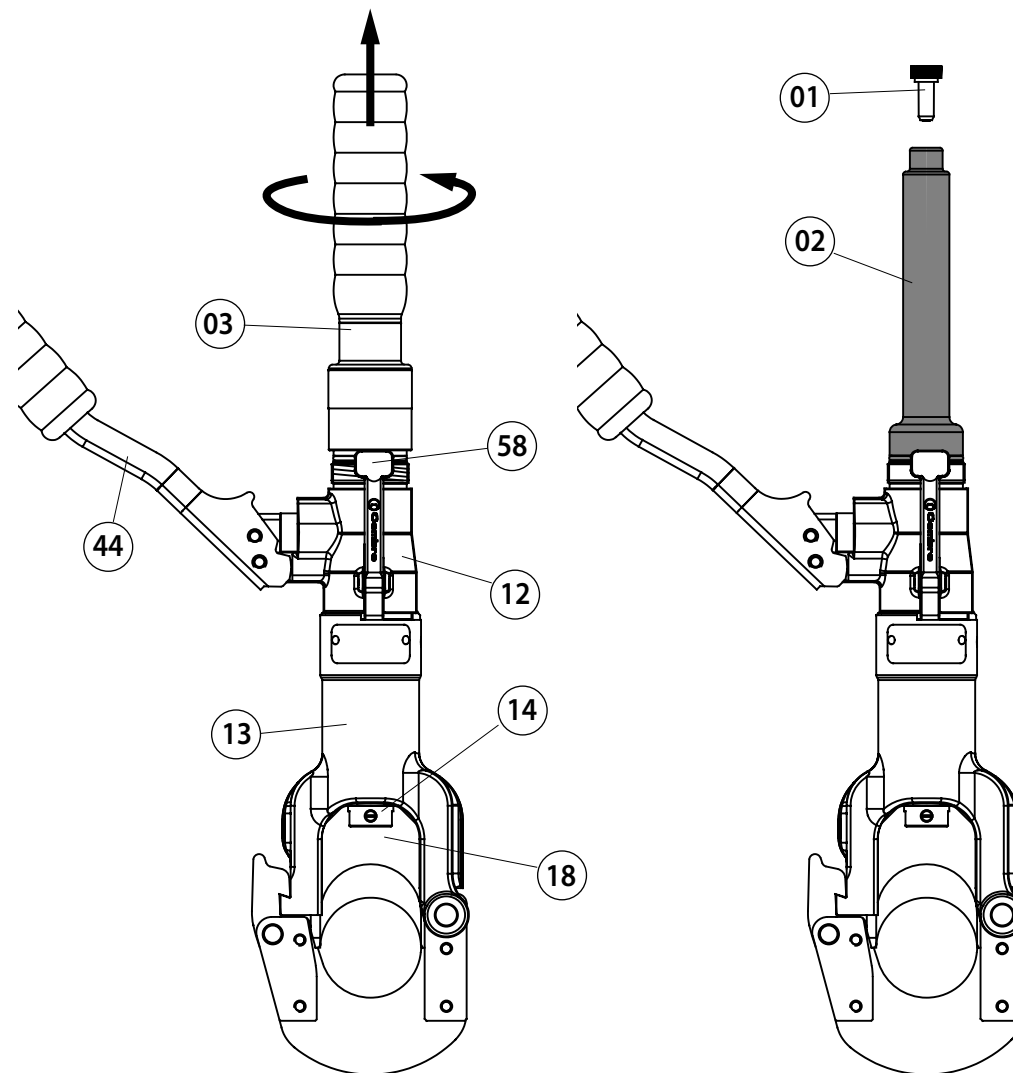

FIG. 2 TOOL POSITION FOR MAINTENANCE OPERATIONS
4. MAINTENANCE (Ref. to Fig. 2)
- a – Hold tool upright in a vice with handles open (Fig. 2).
- b – Unscrew the main handle (03) from the body (12) to expose the rubber oil reservoir (02).
- c – Remove reservoir cap (01).
- d – Operate moveable handle, several times, in order to advance the ram (14).
- e – Press the pressure release lever (58) to retract the ram (14), discharge oil pressure from the circuit and return all oil to the reservoir.
- h – Remove all air from reservoir (02) and fit cap (01).
- i – Assemble main handle (03) to tool body.